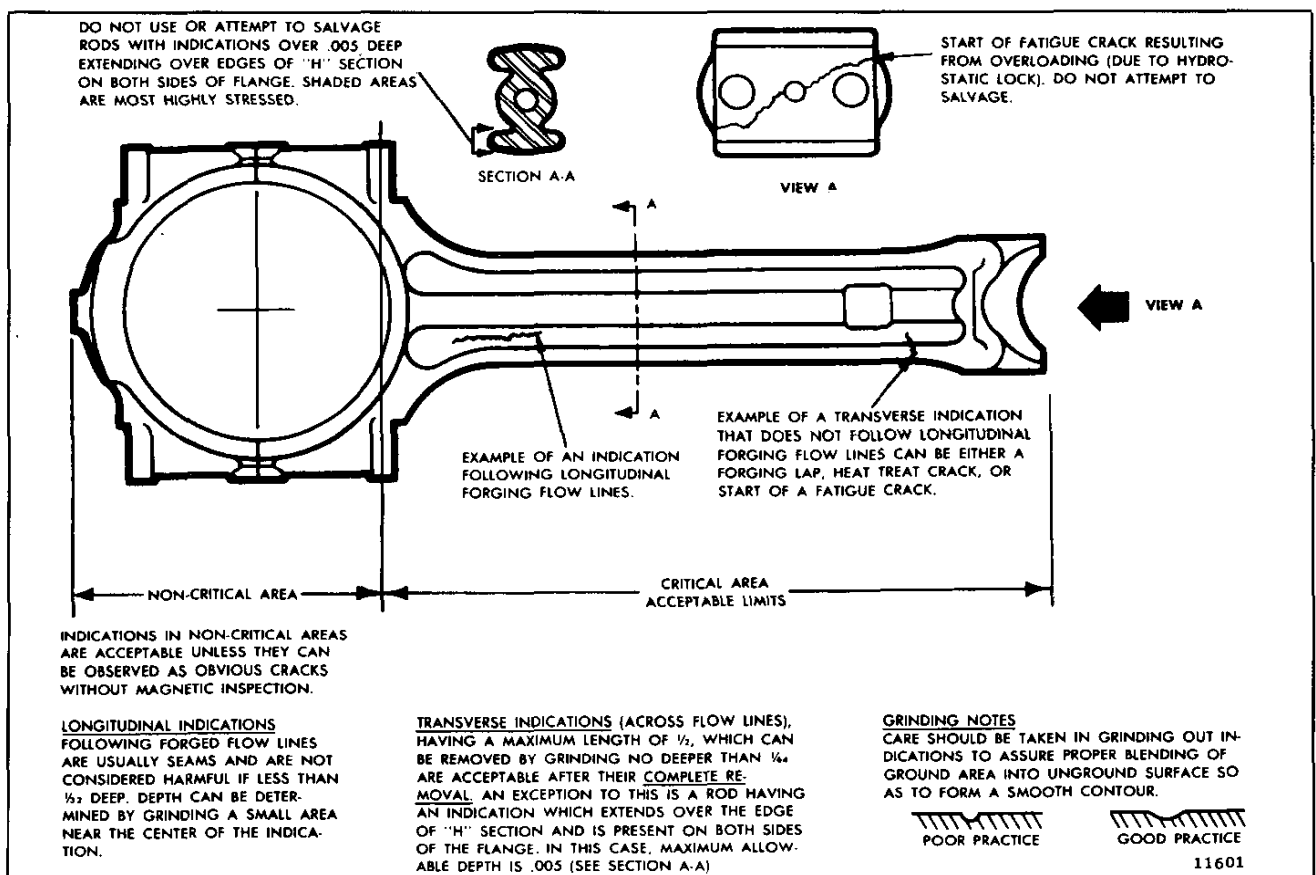

Fig. 11 – Magnetic Particle Inspection Limits for Connecting Rod
1. Check for cracks (Fig. 11) by the magnetic particle method outlined in Section 1.3 under *Crankshaft Inspection*.